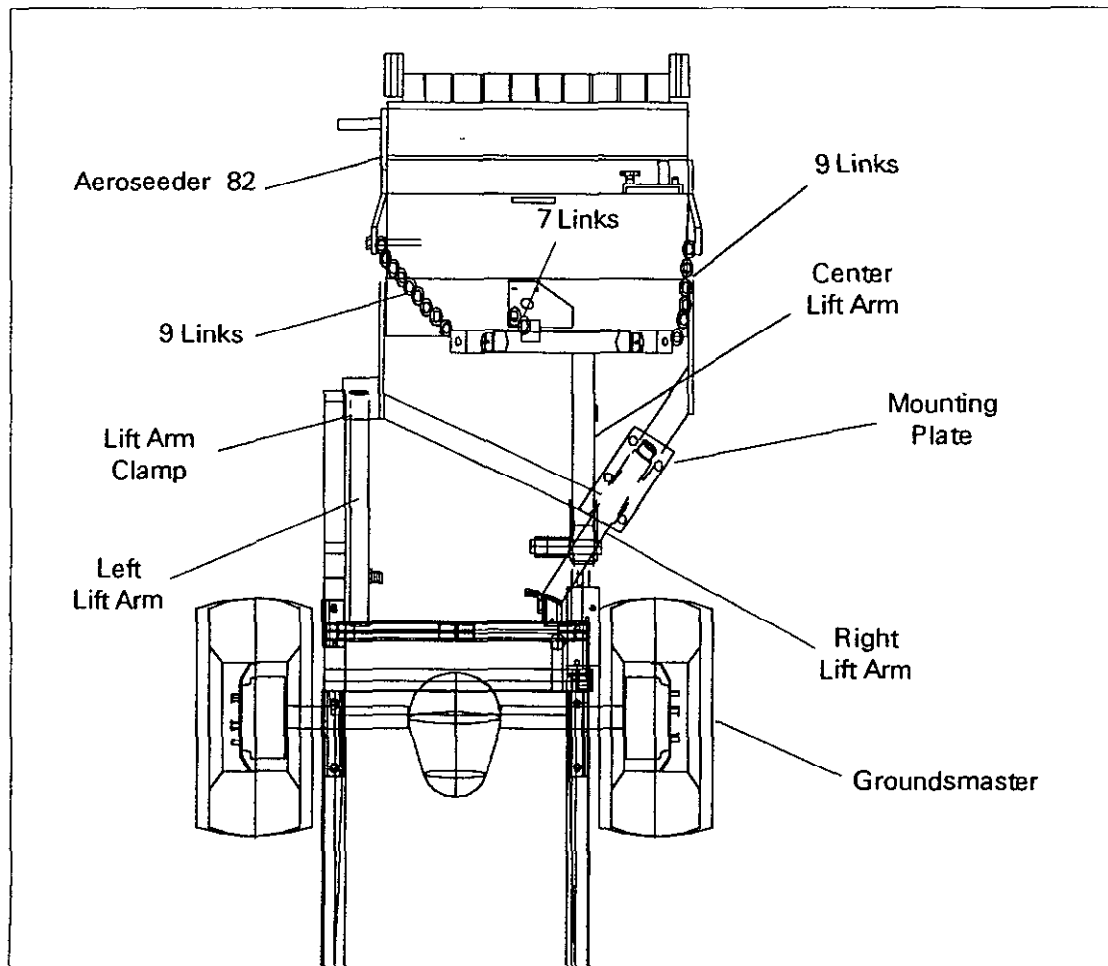

Figure 1
ATTACH AEROSEEDER TO 300 SERIES GROUNDMASTERS (Fig. 1)
13. Remove the rear right bolt from the top of the gearbox guard. See Fig. 1. Attach the remaining end of the chain to the bolt and secure.